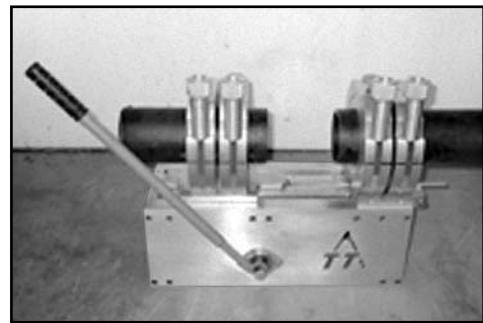

Figure 3.
2. Once in position, start facer. Bring the pipe ends together using the torque rod. (Figure 3) When ribbons of faced pipe begin to build up, stop facer tool, retract pipes and clean ribbons from facing area. Continue facing until the limiting stops have made contact to the clamps.